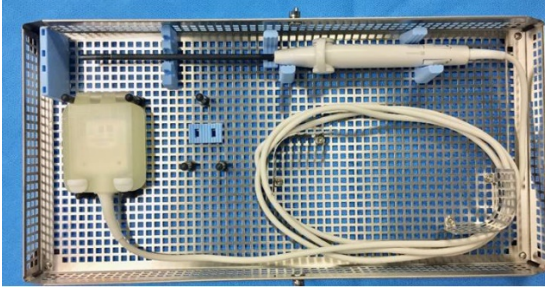

Figure 5-1 Representative of IUUS Probe in reprocessing tray. Tray in photo is Sonata® IUUS Probe Reprocessing Tray OM-1000-GS with Connector Protector ACCY-018
- a. The tray silicone device mounts must be placed to secure the device, see Figure 5-1. The IUUS Probe should be positioned on top of the silicone mounts, but not pushed in.